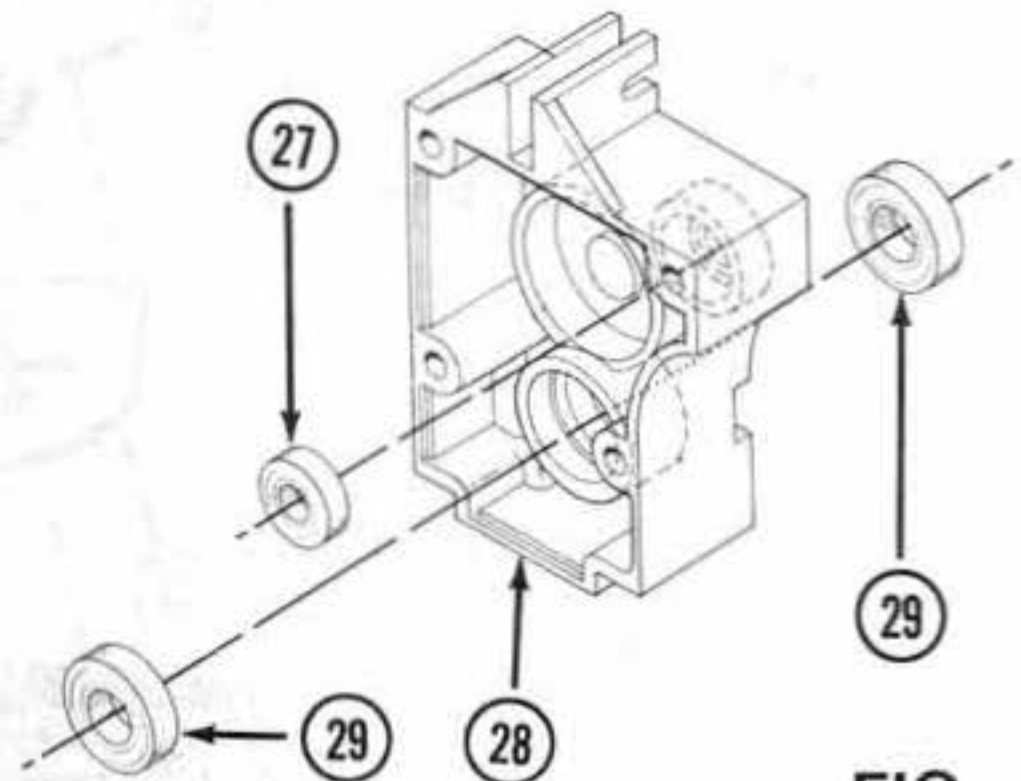

FIG. 10
2. Install 3/16" X 3/8" bearing (27) into upper bearing seat of the left half of gearbox (28). Fig.10